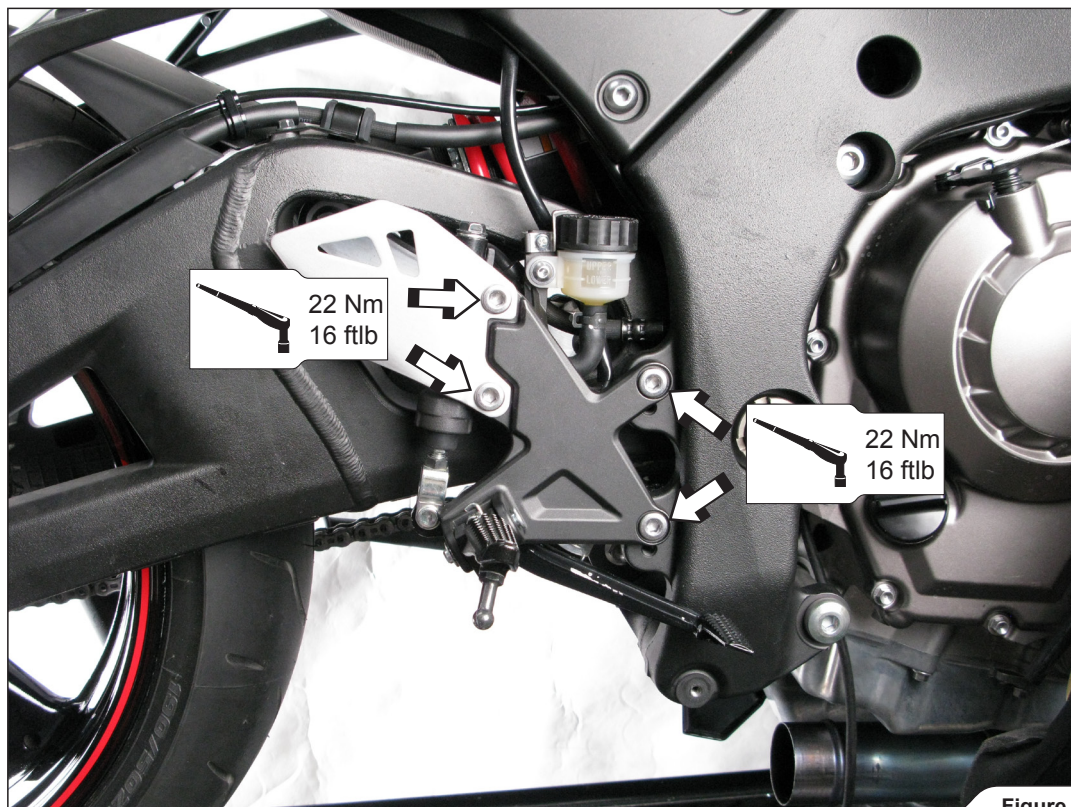

Figure 9
1. Assemble the foot peg and foot guard back onto the frame (Figure 9).